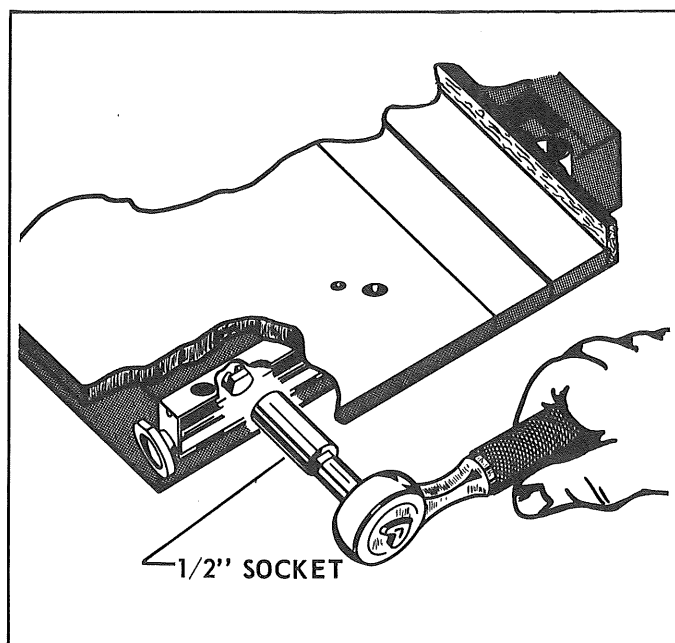

FIG. 22
6. To adjust table, the four channel screws Fig. 22, must be loose.
11. When table is square, securely tighten the four channel screws with a 1/2" socket wrench Fig. 22.